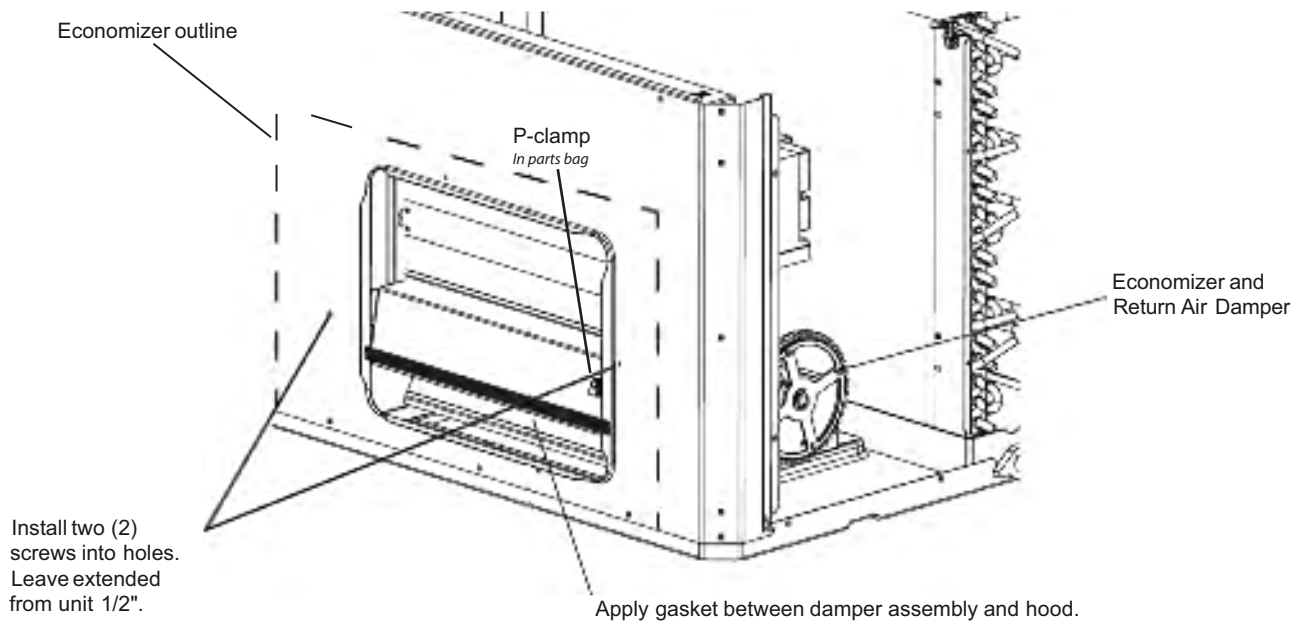

Figure 6. Start Economizer's Front Mounting Screws
4. Insert 2 screws through the holes in the front face of the unit and into the matching attachment holes in the economizer assembly. See Figure 6.